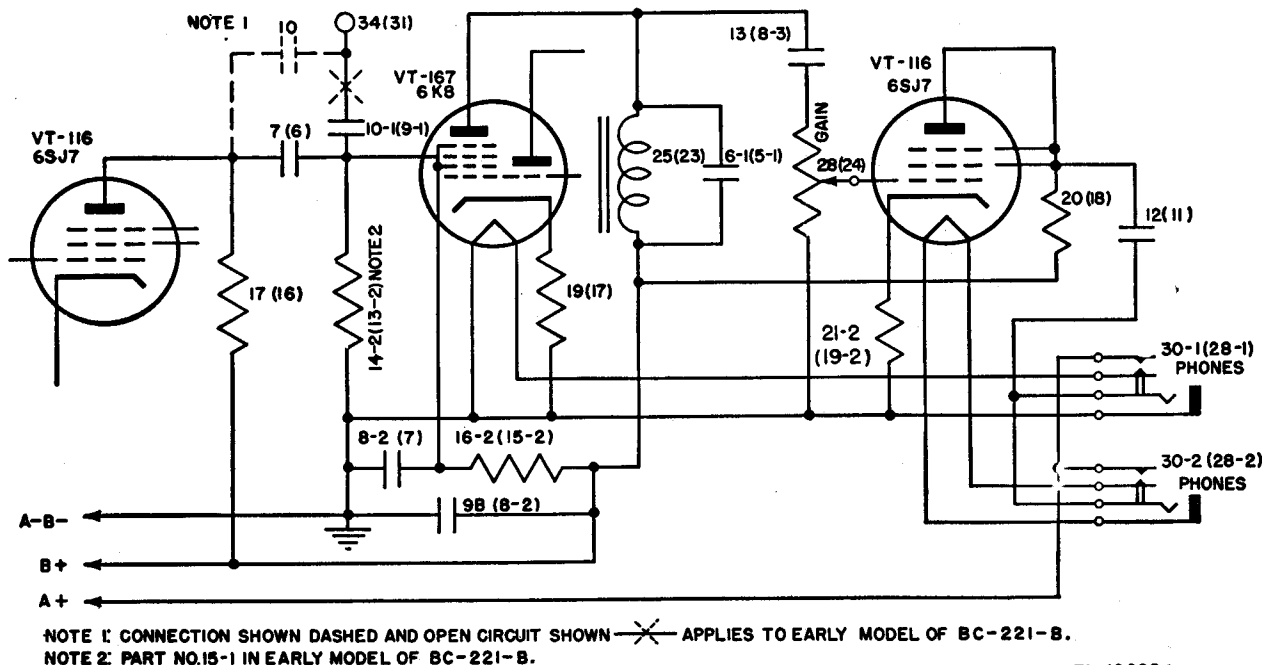

Figure 39. Frequency Meter BC-221-(2), functional diagram, detector and audio-amplifier circuits.
control grid of the triode section, is used as a high gain screen grid detector with hexode grid No. 3 acting as the control grid. The joint action of grids No. 1 and 3 produces electron coupling of the signals on the two grids. (See fig. 39.) Resistor 14-2 (13-2), part No. 15-1 in the early model of the BC-221-B, is the detector tube grid leak. Resistor 16-2 (15-2) supplies voltage to the screen grid of Tube VT-167 (6K8). Capacitor 8-2 (7) bypasses the screen grid to ground. Capacitor 9b (8-2) is a bypass capacitance across the plate voltage. The r-f voltage developed across the load resistor 17 (16) in the